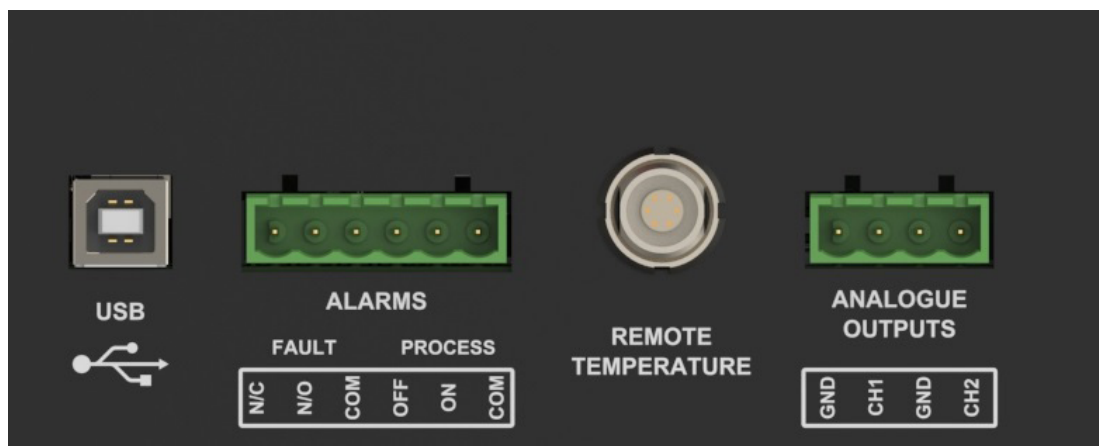

Figure 6 Alarm and Analog Output Connection
The two alarm output ports are connected to the instrument via a single 6-way, push-fit connector block as shown in Figure 6. Each output comprises a 3-wire set of potential free, change-over relay contacts.
1. Align the red dot on the body of the temperature probe connector with the red dot on the socket labelled **REMOTE TEMPERATURE** (see Figure 6).
3. To remove the connector, slide the connector's body collar (1) back along its axis, away from the instrument, to release the lock. Gently pull the connector body out of the socket. **NOTE: Do not attempt to pull the connector out with the cable – make sure that the collar is released first.**
1. Check the orientation of the connector and gently push it into the communications socket (see Figures 6 and 7).